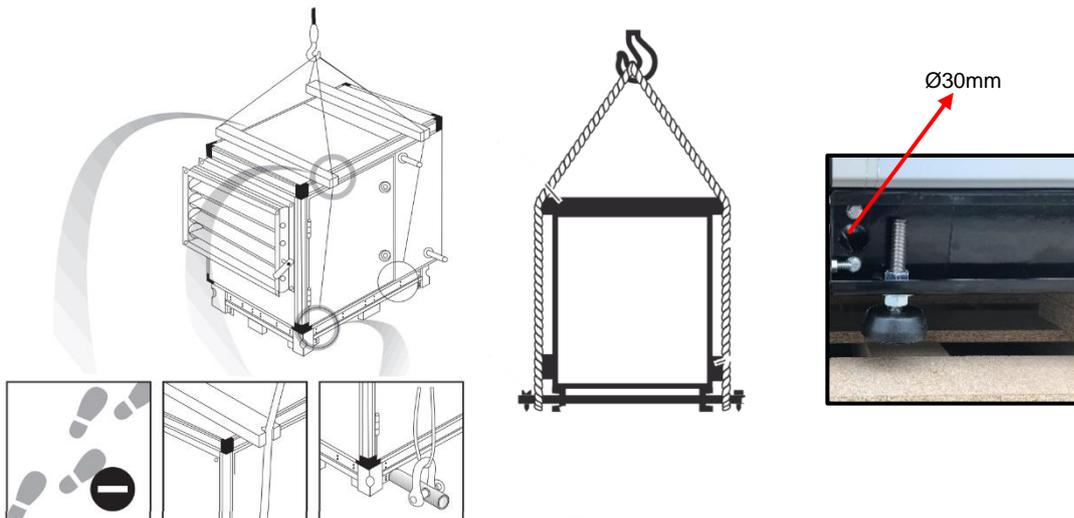

Fig. 4
**ATTENTION** ⚠ If the device is to be transported by crane, the transport pipe entrances on the base must be used. (Fig. 4)
- Prevent damage to the device from chains or ropes with wooden stick as shown. (Fig.4)